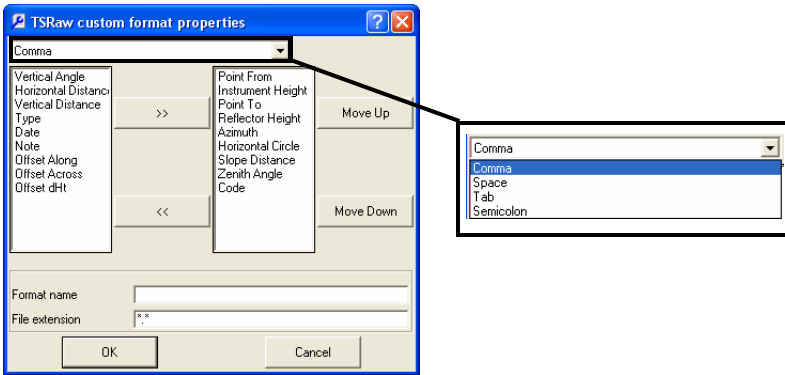

Figure 3-31. Select Delimiters
6. On the *TSRaw custom format properties* dialog box, select the *Delimiters* from the drop-down lists (Figure 3-31).